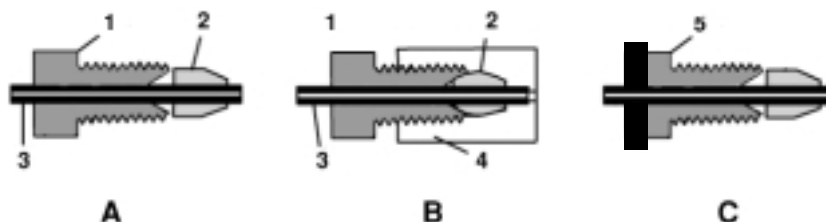
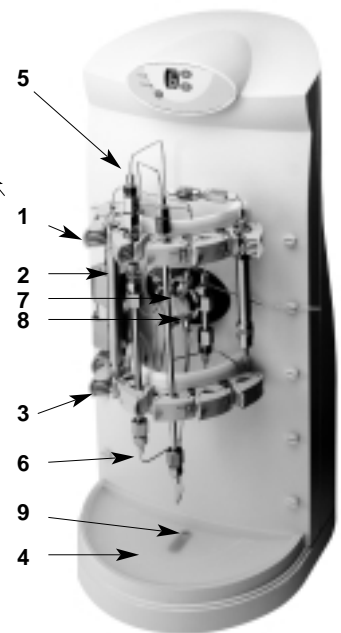
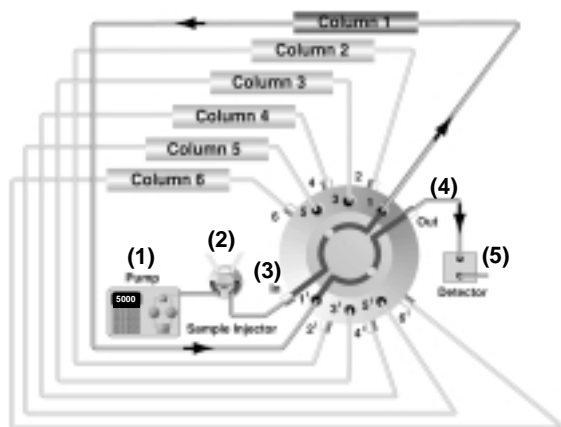
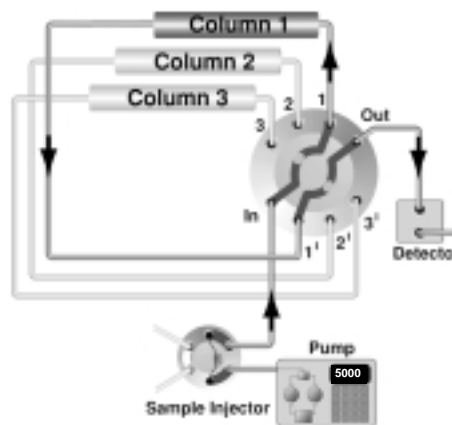

Fig. 7. Cut-away view of fittings installation.
Fig. 8. Installing columns on Column Selector.
Fig. 9. 6-Column plumbing schematic.
Fig. 10. 3-Column plumbing schematic.
- (1) Figure 8 shows the general locations for installing columns onto the Column Selector.
- (2) Open the upper column clip (1), insert the column (2), and close the upper column clip. Slide the column upward to allow opening of the lower column clip (3). Insert the column into and close the lower column clip.
- (3) Install the inlet nuts, ferrules, and tubing (5) as previously described (see Fig. 7).
- (4) Install the outlet nuts, ferrules, and tubing (6) as previously described.
- (5) Connect the column inlet to the correct valve inlet (7) position (numbered 1-6 in the 6-column configuration [Figure 9] and 1-3 in the 3-column configuration [Figure 10]). Install the inlet nuts and ferrules.
- (8) The correct inlet and outlet plumbing is also shown schematically in Figure 9 (6-column configuration) and Figure 10 (3-column configuration).
- (a) The pump (1) and sample injector (2 [usually an autosampler]) are hooked up to the common valve inlet (3), through the columns (labeled 1-3 or 1-6) to the common valve outlet (4) to the detector (5).
- (1) The plastic solvent drip tray located below the valve (4 in Figure 8) is designed to funnel any spilled liquids through the tray exit hole (9 in Figure 8) to a waste container.